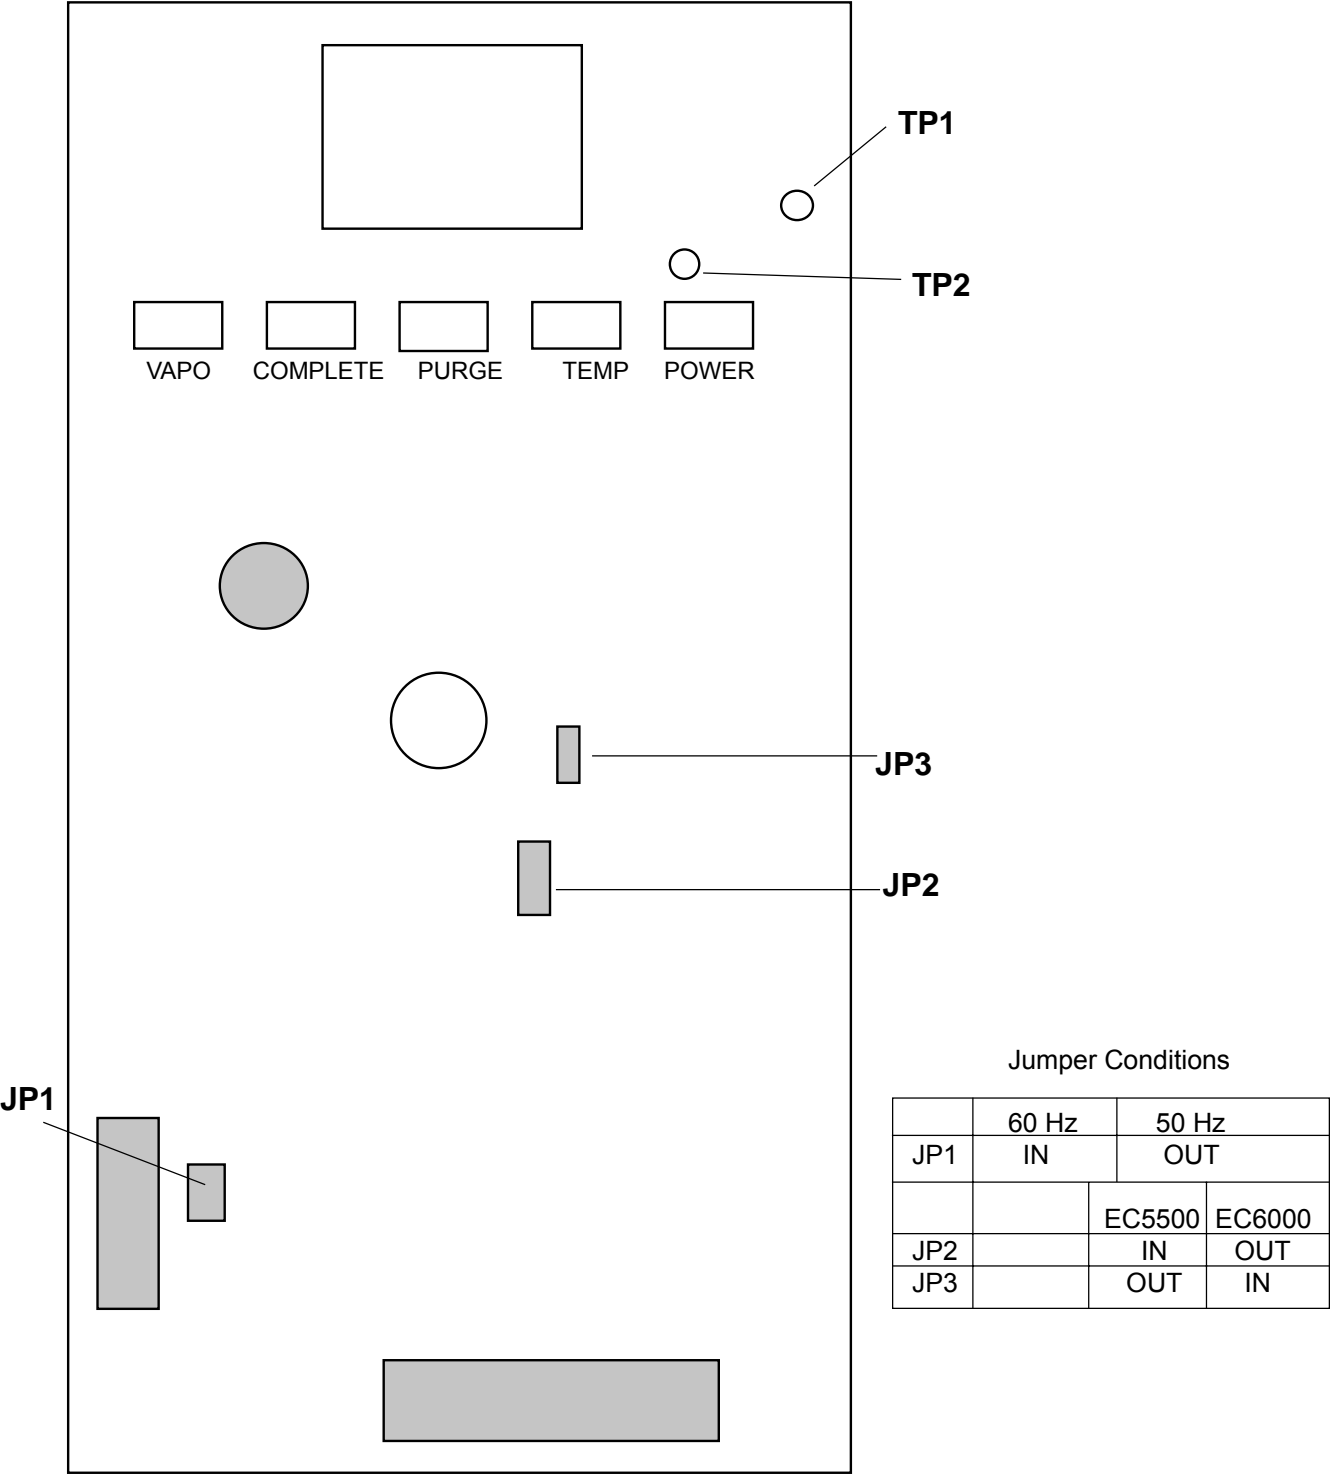

Figure 23: Display/Control Printed Circuit Board
(See Figure 23)
- Set the probes of a DC voltmeter across test points TP1 and TP2 (see Figure 23).